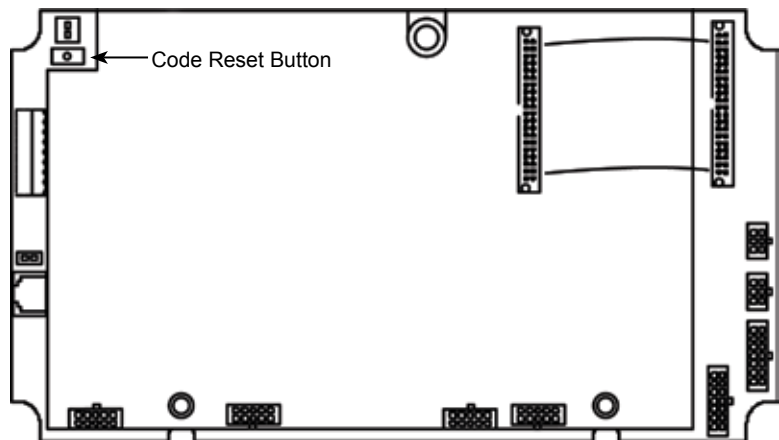

Figure 3-3
3. With power turned on and the unit in Operate mode, press and hold the ACCESS CODE RESET button (on the upper left side of the lower circuit board) for ten seconds. (See *Figure 3-3.*)